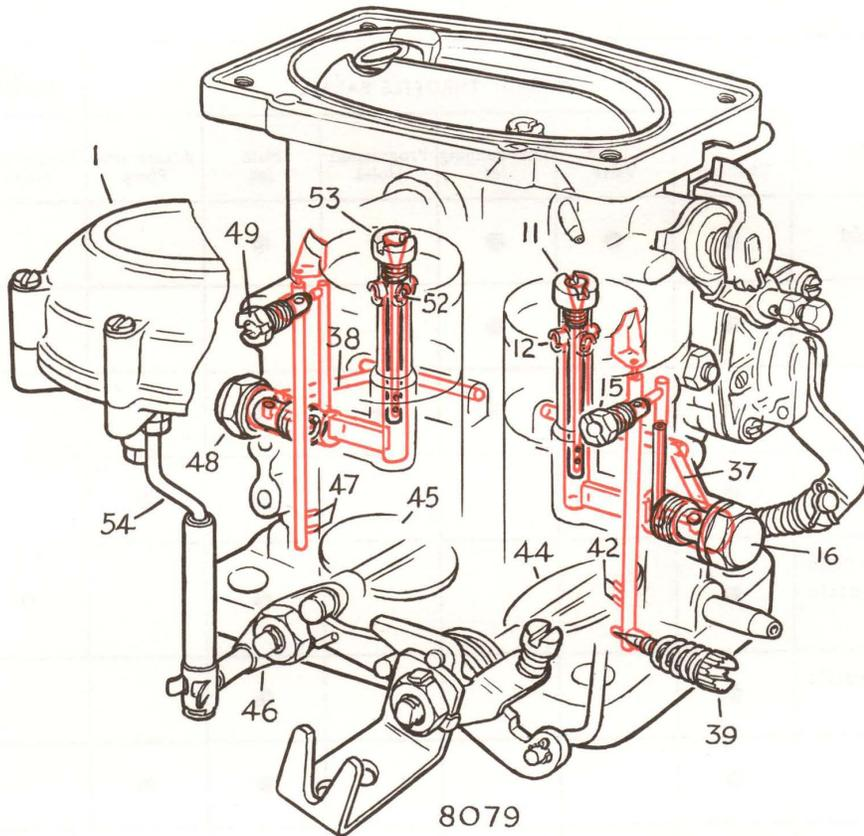
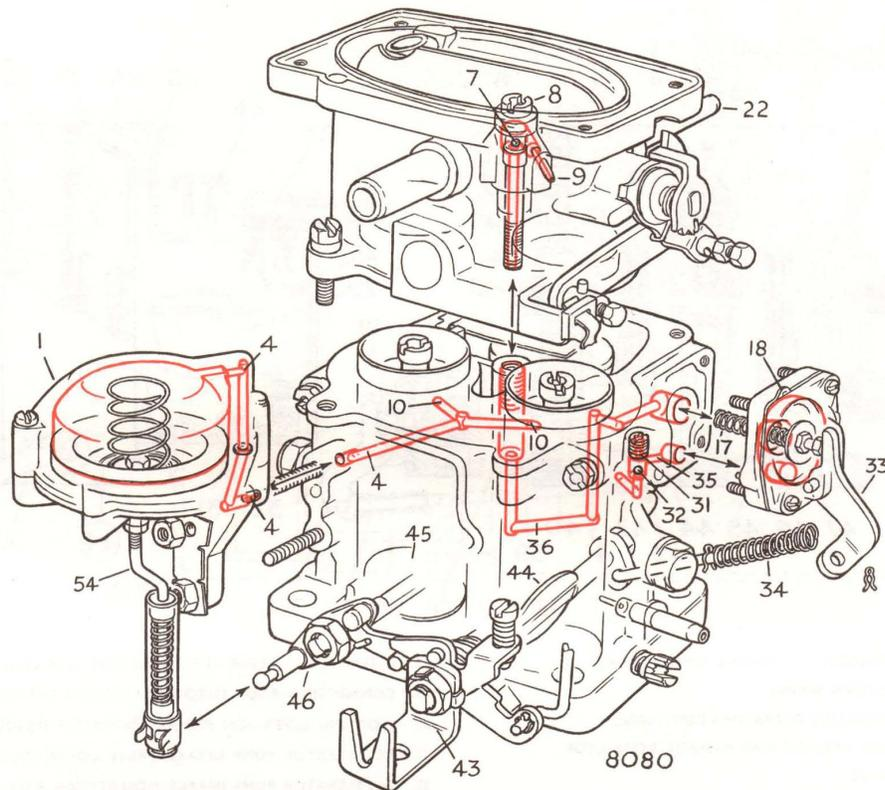

Fig. 2. Solex B.32 P.A.I.A.S. carburettor — slow running and main spraying passages
Fig. 3. Solex B.32 P.A.I.A.S. carburettor — accelerator pump and secondary throttle operating unit passage ways
These requirements are met by the various parts of this carburettor which are described in the following pages. The various internal jets and drillings are shown in Figs. 2 and 3. Fig. 4 gives a fully annotated schematic sectional view and THESE ANNOTATION NUMBERS ARE USED WHENEVER POSSIBLE in Figs. 3 to 11.
**Slow running** — See Figs. 2 and 6
See Figs. 2 and 7
**Part throttle driving —** See Figs. 2 and 7
See Figs. 3 and 11